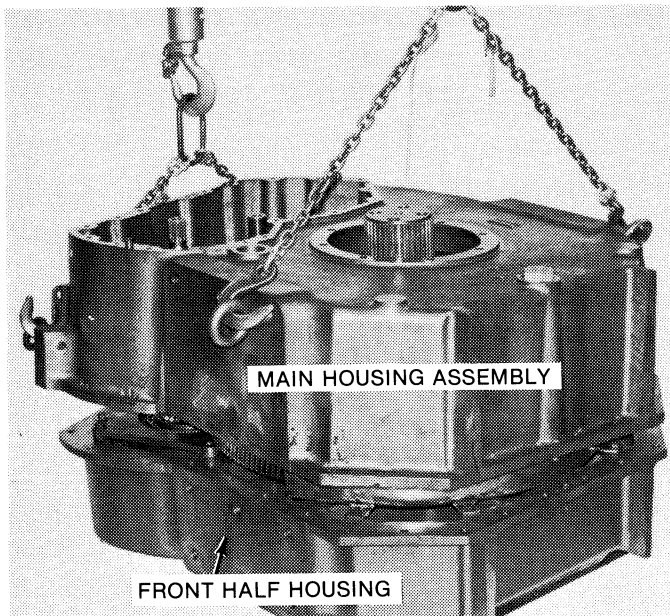

Figure 6-27. Removing or Installing Main Housing Assembly.
3. Hoist the main housing assembly from the front half housing. See Figure 6-27.